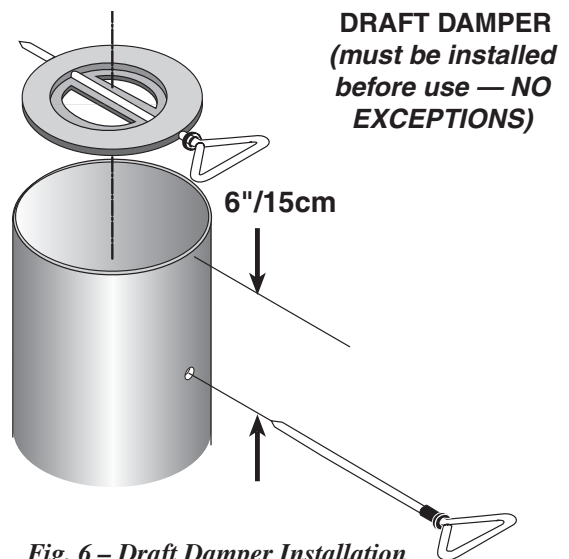

Fig. 6 – Draft Damper Installation
1. Drill two 1/4"/6mm holes centered on either side of the pipe section 6"/15cm from the top end of the pipe (figure. 6).